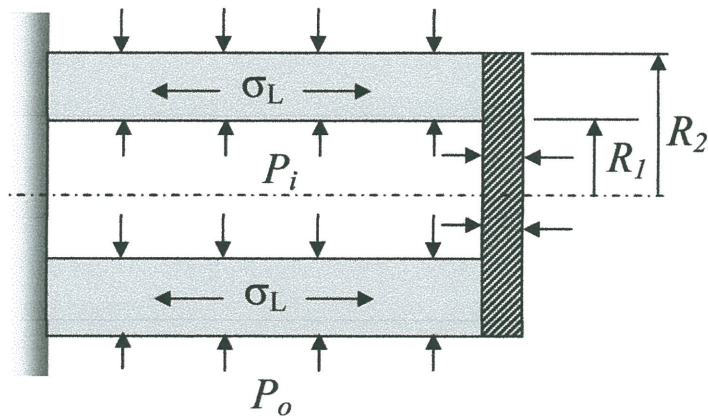

FIGURE Q5
- Q5** (a) Consider the cross-section of a thick cylinder with closed ends as shown in **FIGURE Q5** is subjected to an internal pressure P_i and external pressure P_o , define the longitudinal stress, σ_L .